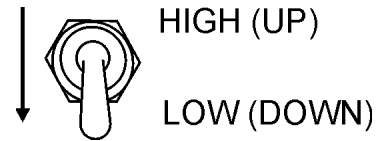

Figure 62. Engine Speed Switch (High)
22. Place the engine speed switch in the **“LOW”** position (Figure 62).